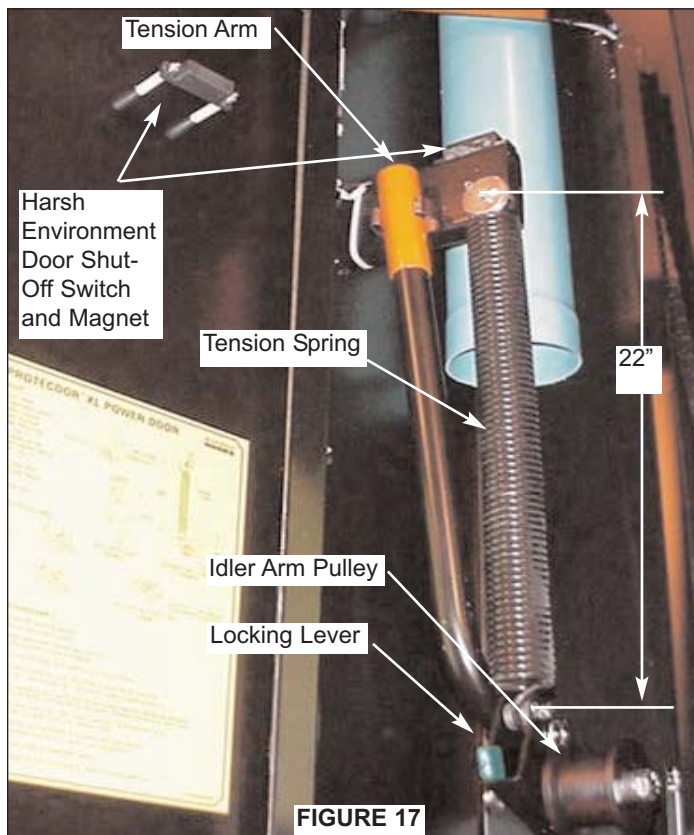

FIGURE 17
- Release the tension lever by pulling downward and lifting the green latch upward, **Figure 17**.
- Adjust the belting so that the spring is stretched to 22" between the hooks when the door is closed. Repeat until 22" is achieved. You may need to pull more tension on the lever or remove belt from tension arm pulley to get more slack to achieve the 22", **Figure 17**. After the correct tension has been applied to the belting, cut off excess to leave 3" of belting extending from the tensioning buckle.